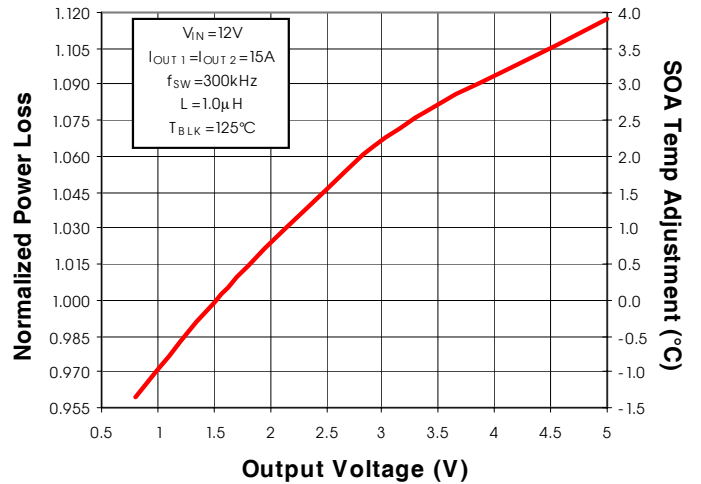

Fig. 5: Normalized Power Loss vs.  $V_{OUT}$
(Fig. 5) Normalized power loss for output voltage ≈ 0.98
- (Fig. 5) Normalized power loss for output voltage  $\approx 1.075$
- (Fig. 5) Normalized SOA Temperature for output voltage  $\approx -0.6^{\circ}C$
- (Fig. 5) Normalized SOA Temperature for output voltage  $\approx 3.9^{\circ}C$